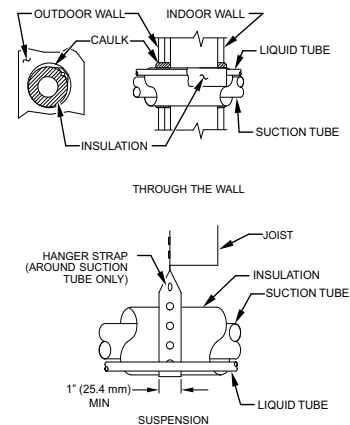

Fig. 1 – Connecting Tubing Installation
5. When passing refrigerant tubes through the wall, seal opening with RTV or other pliable silicon–based caulk (see Fig. 1).
7. Do not suspend refrigerant tubing from joists and studs with a rigid wire or strap which comes in direct contact with tubing (see Fig. 1).
9. When necessary, use hanger straps which are 1 in. wide and conform to shape of tubing insulation (see Fig. 1).